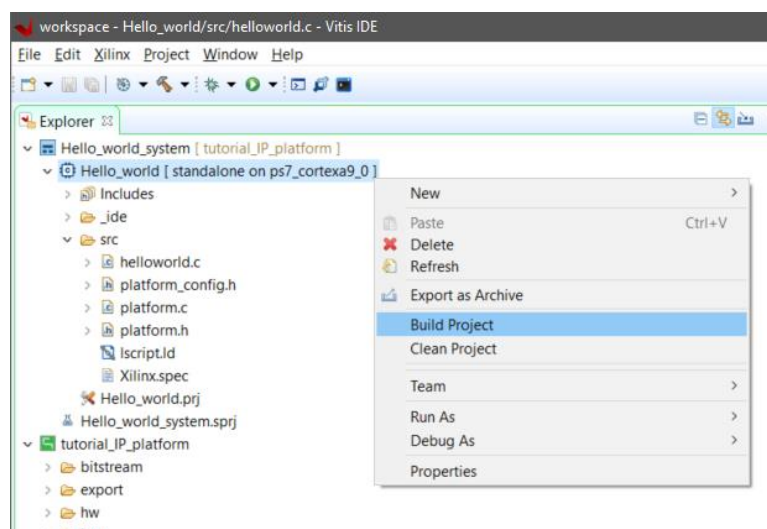

Figure 23
1. Right-click on the project folder and select **Build Project** (Figure 23)